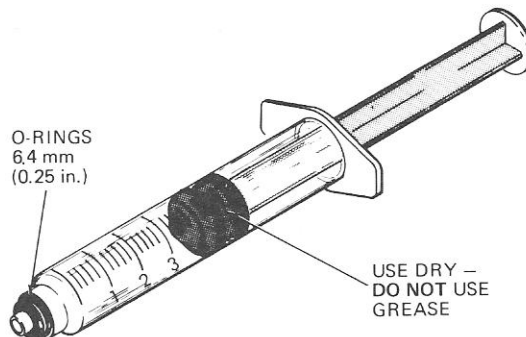

Figure 4-3. Syringe for use in Cell Flushing.
- a. Place two 0.64-mm (0.25-in.) O-rings on a syringe as shown in figure 4-3, or preferably use an
- c. Use the syringe (figure 4-3) and fill the cell with the coating solution.